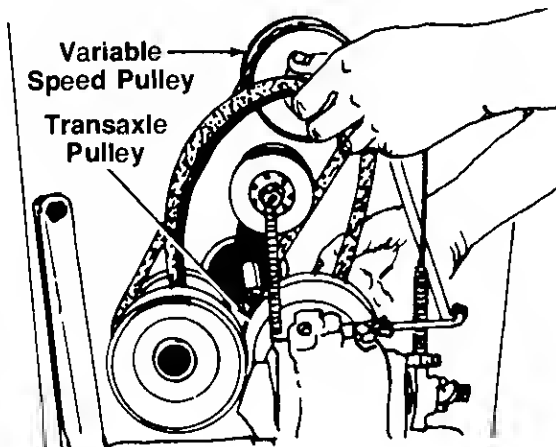

FIGURE 30.
8. Slip the "V"-belt off the variable speed pulley and transaxle pulley. See figure 30.